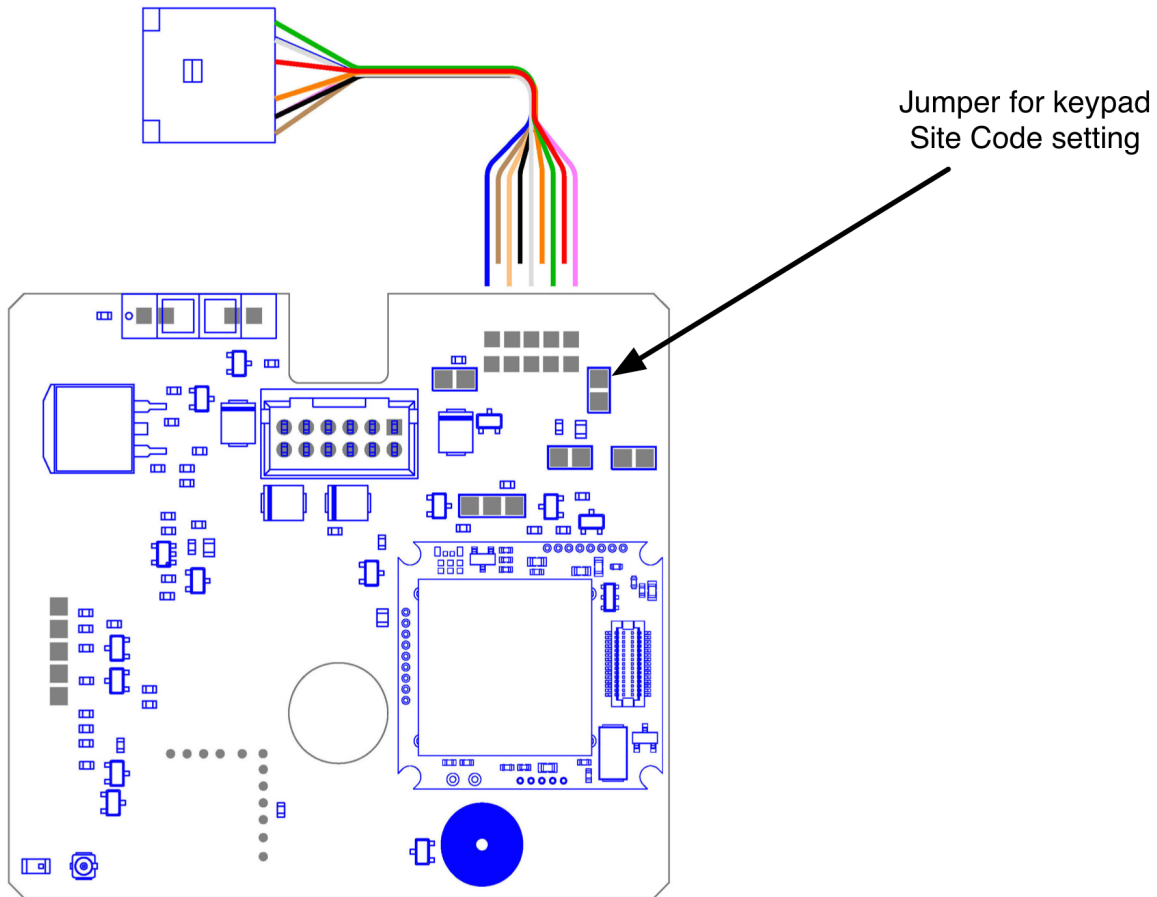

Figure 1 Jumper for Keypad site code.
- 4.2.1. With keypad off or unplugged, install jumper as shown in figure 1.
- 4.2.8. Disconnect power from the keypad, & remove the jumper indicated in figure 1 above.